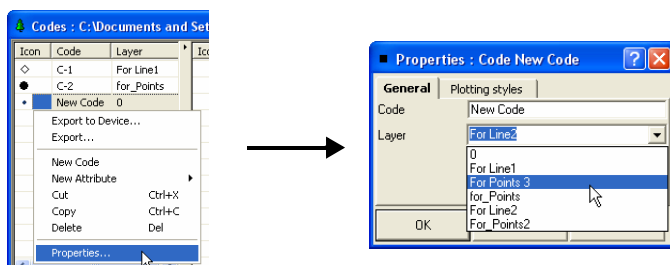

Figure 5-51. View Code Properties and Edit Name
1. Right-click the selected code and click **Properties** on the pop-up menu (Figure 5-51).
2. On the *General* tab, edit the code's name and select the layer (Figure 5-51).